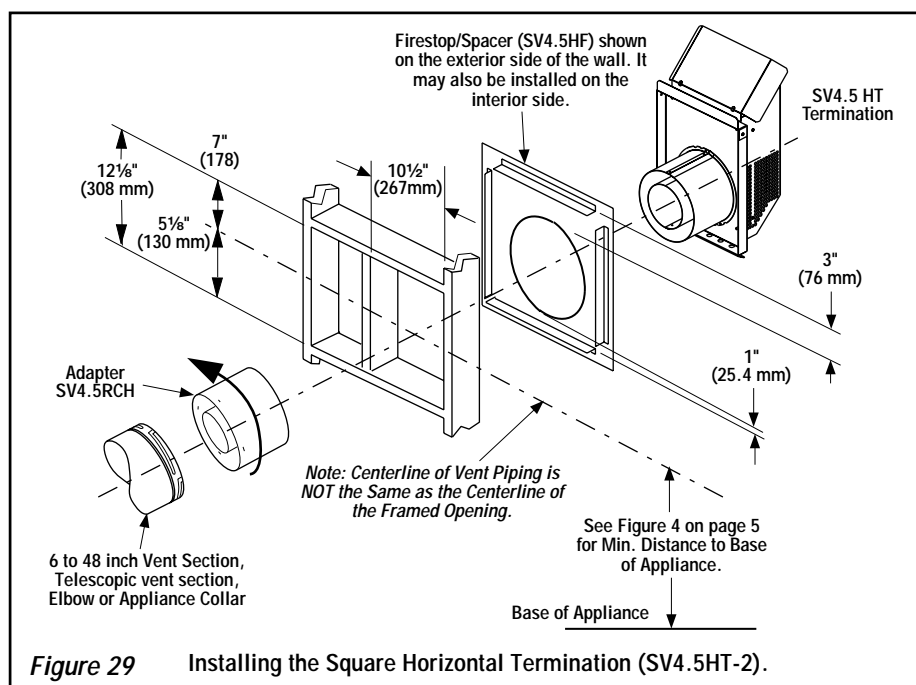

Figure 29 Installing the Square Horizontal Termination (SV4.5HT-2).
K. Attach termination adapter - Attach the adapter (adapter - SV4.5RCH - provided with the termination) to the vent section or telescoping vent section), elbow or appliance collar as shown in **Figure 29** in the same manner as any SV4.5 vent component (refer to **Step E**).
L. Install Firestop/Spacer at exterior wall - When using the **square** termination, install SV4.5HF (Secure Vent), SF4.5HF (Secure Flex) Firestop/Spacer over the opening at the exterior side of the framing, long side up, with the 3 inch spacer clearance at the top as shown in **Figure 29**, and nail into place. (The Firestop/Spacer may also be installed over the opening at the interior side of the framing).